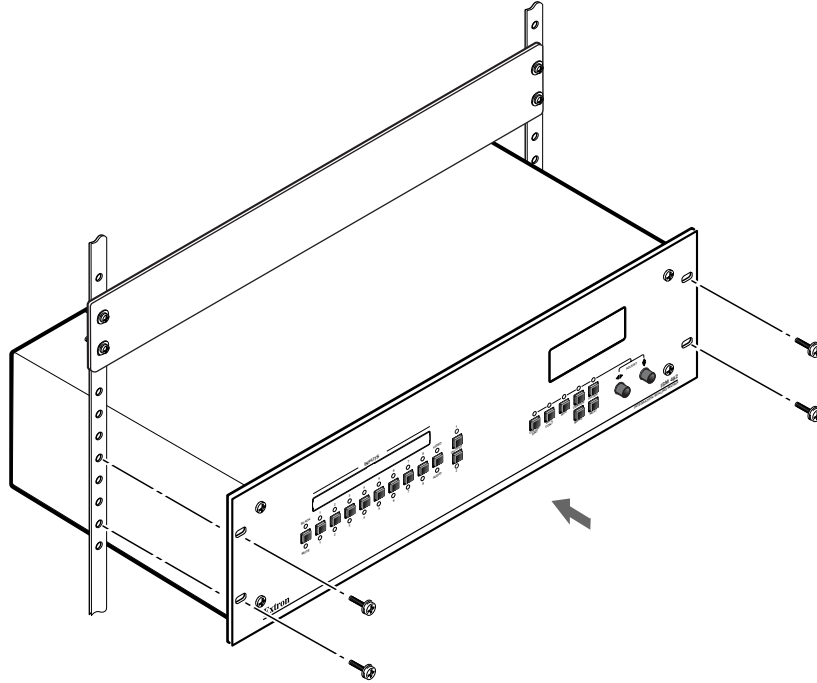

Figure 2-1 — Mounting the switcher
The following Underwriters Laboratories (UL) requirements pertain to the installation of the switcher into a rack (figure 2-1).
To rack mount the switcher, use two screws on each end of the switcher to attach the switcher to the rack (see figure 2-1).